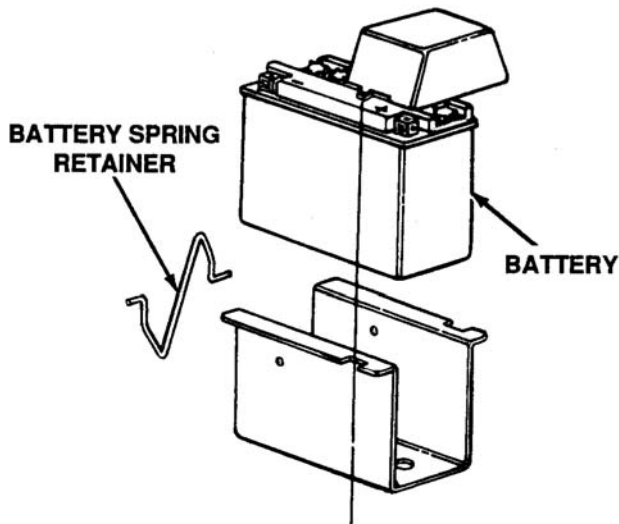

Figure 3-3. Battery With Spring Retainer.
2. The standard battery used in the 600 series is 725-0514 (125 cold cranking amps). This battery can now be replaced by part number 725-1430 (275 cold cranking amps) by removing the battery spring retainer to allow clearance for the larger battery. This will not retrofit prior production units. See Figure 3-3.